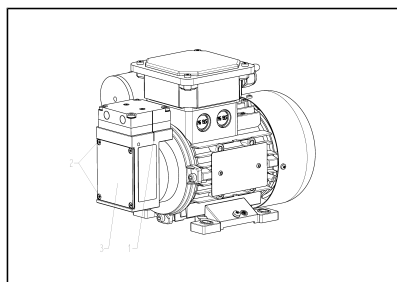

Fig.7 Marking with felt-tip pen
1. Mark the head plate, intermediate plate and housing with a felt-tip pen ( Fig. 7/1) to ensure proper mounting.
2. Remove the housing cover ( Fig. 7/3).
3. Loosen the four fastening screws ( Fig. 7/2) and remove the housing cover ( Fig. 7/3).